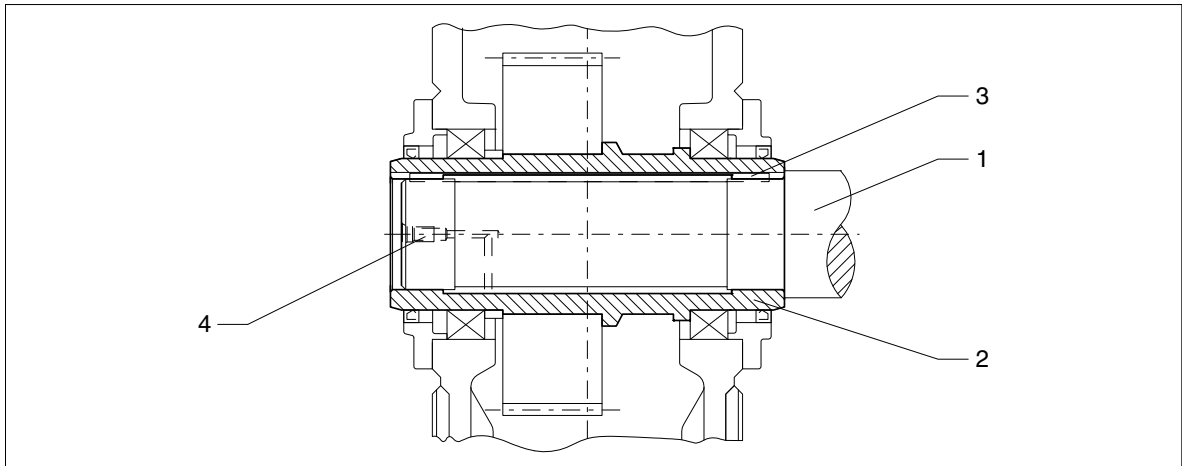

Fig. 33: hollow shaft with parallel keyway, preparation
To facilitate demounting (see also item 6.4.3), we recommend providing a connection for pressure oil on the end of the driven machine shaft. For this a hole must be drilled through to the hollow shaft bore (see figure 33). This connection may also be used for supplying rust-releasing agent.
- If frictional corrosion has occurred on the seating surfaces, rust-releasing agent may be used in order to facilitate forcing off the gear unit. The rust releaser can be injected through the pressure-oil connection (see figure 33), e.g. using a pump.